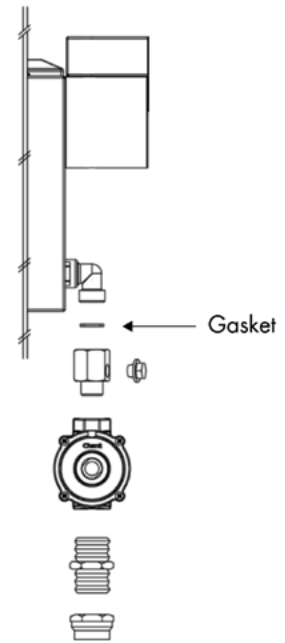

Figure 1
- For gas inlet position of appliance refer to Figures 1 and 2.